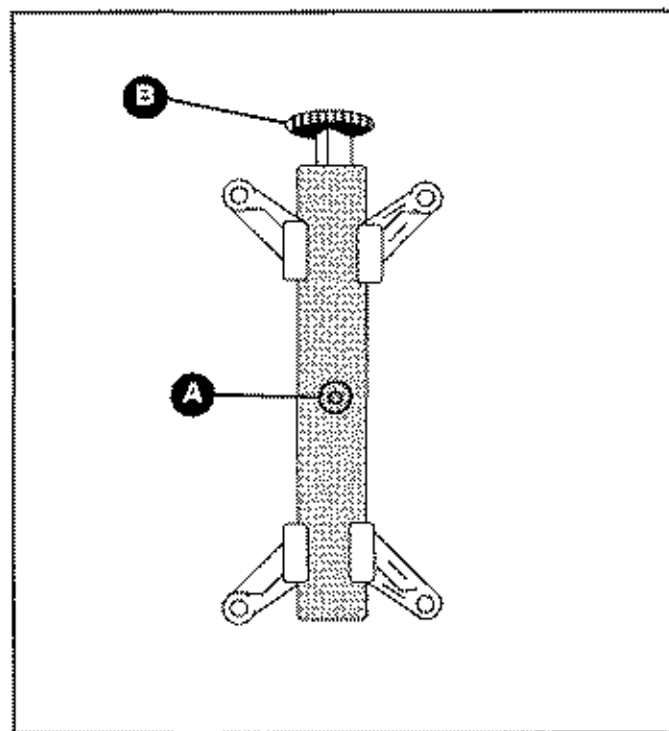

Figure 1-6
Wheel clamps are four-armed clamps that attach to a vehicle's wheels (see Figure 1-6). They provide spindles (A) for hanging the wheel units. A wheel clamp spindle centers itself as the clamp is tightened on a rim. Tighten the wheel clamp by turning the clamping knob (B).